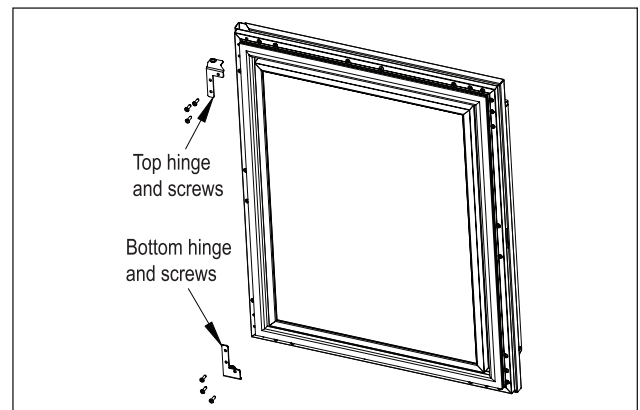

Figure 9: Door Hinges
- Attach the top and bottom door hinges using the screws removed in step 6 (Figure 9).